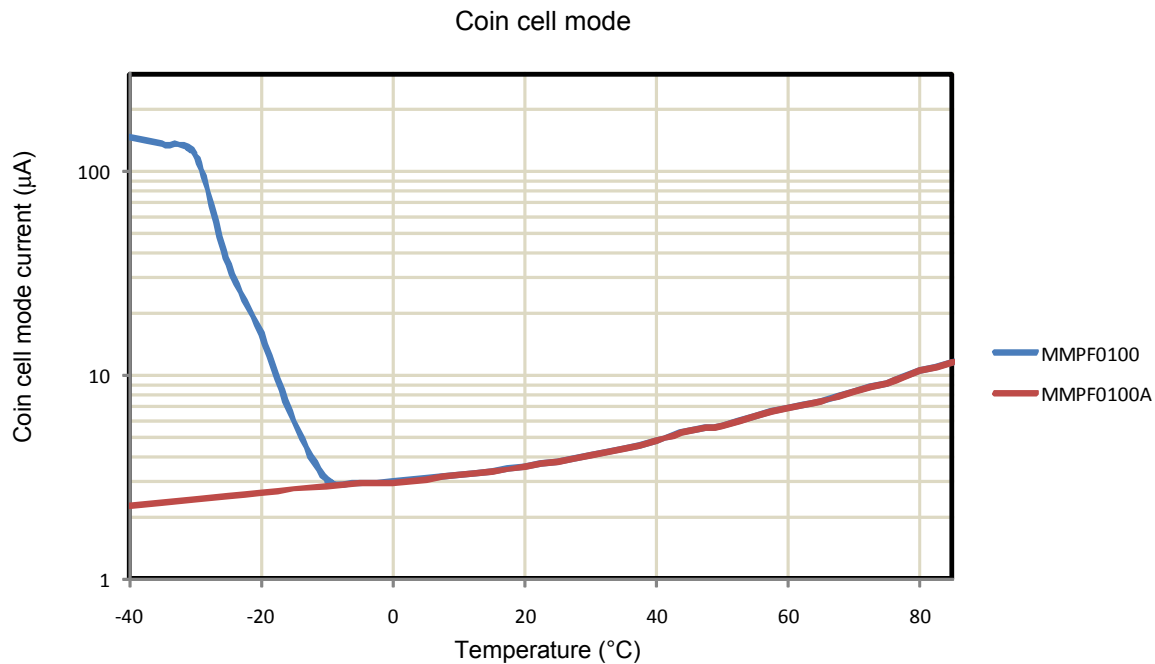

Figure 4. Current overtemperature waveforms
16. Refer to Figure 4 for coin cell mode characteristics over temperature.